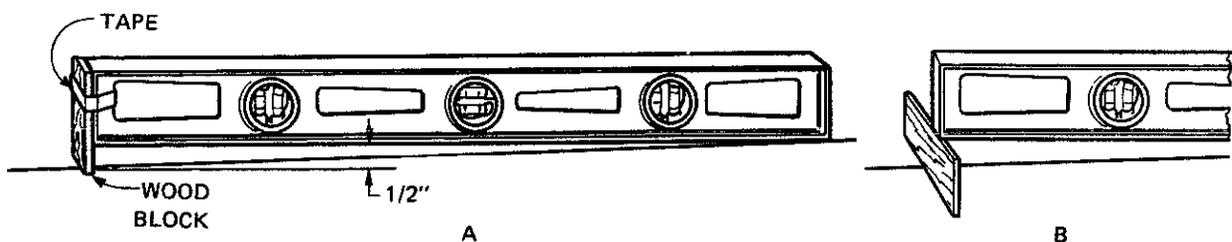

Fig. 5-8 Testing pitch with a spirit level
- At one end of the level, tape a block of wood so that it projects  $\frac{1}{2}$  inch beyond the bottom edge as shown in figure 5-8. If only an approximate check is necessary, the block can be placed under the extreme end of the level. It is then held in place by hand until the reading is taken. See B, figure 5-8.